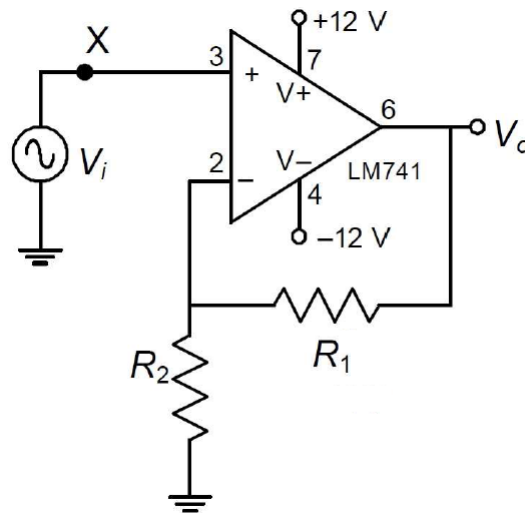

Fig.3
1. Assemble the circuit shown in Fig. 3 with  $R_1 = 10\text{k}\Omega$  and  $R_2 = 1\text{k}\Omega$ . Make sure the power supply ground is connected to the circuit ground.